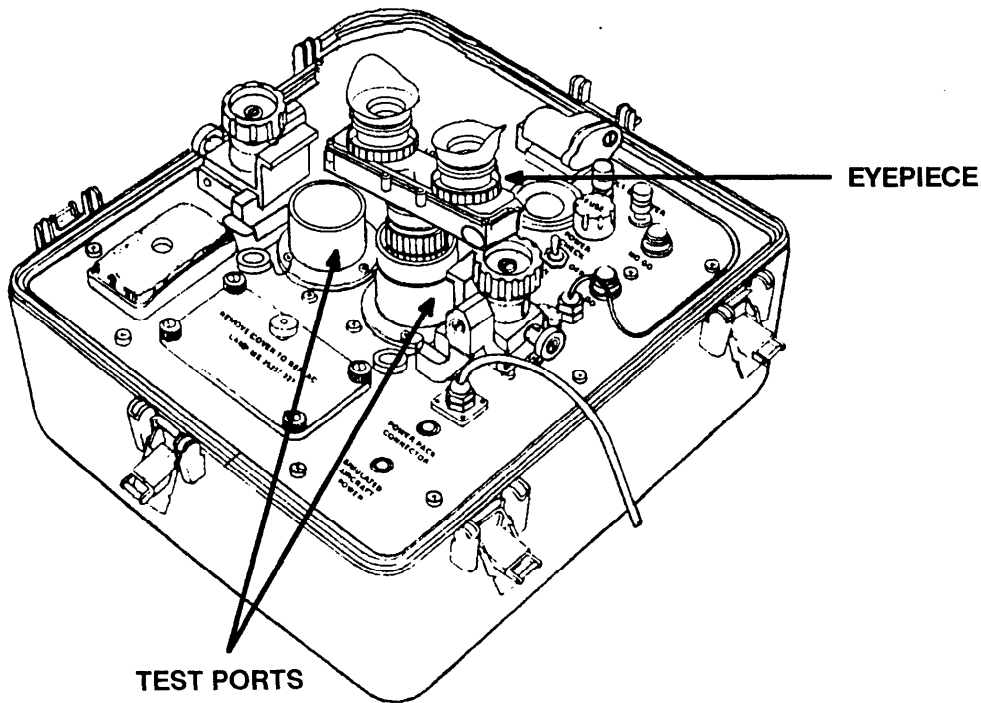

Figure 3-13. Inserting the Goggle into the Test Set.
- f. Attach the goggle to the test set by inserting the objective lens into the adapter (Figure 3-13).
- a. Turn the selector switch to the HIGH LIGHT RESOLUTION (blue) position (Figure 3-13).